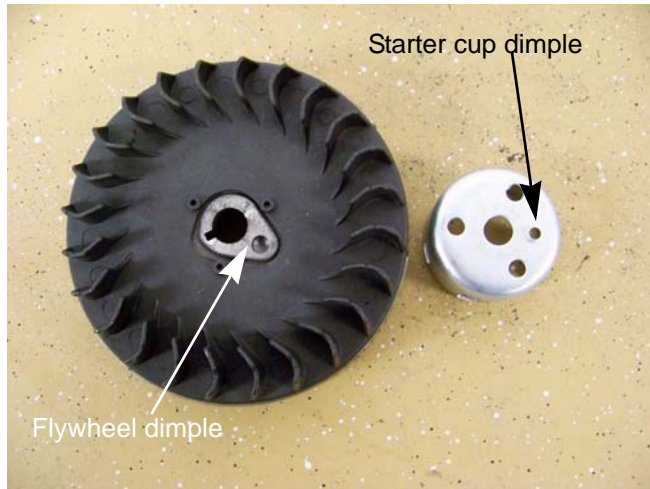

Figure 6.3
3. Install a starter cup by placing it on the flywheel, with the dimple on the bottom of the starter cup in the dimple in the flywheel. See Figure 6.3.